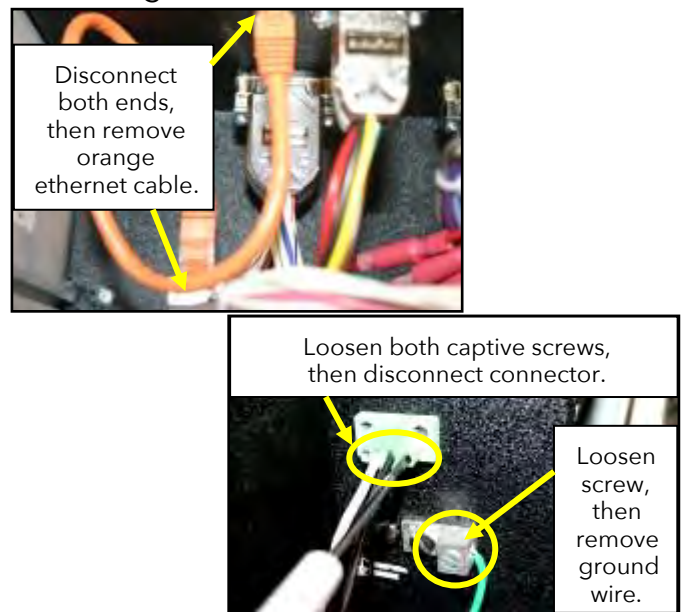

Figure 1. DISCONNECTING THE ETHERNET CABLE, THE POWER CABLE CONNECTOR, AND THE GROUND WIRE.
3. Remove the orange ethernet cable on the left by disconnecting both ends, then removing it. Set aside for re-use. Remove the power cable connector on the right by loosening the captive screw on each end of the green connector, then unplugging the connector. Disconnect the ground wire by loosening the ground wire retaining screw, then carefully removing the ground wire. Refer to Figure 1.